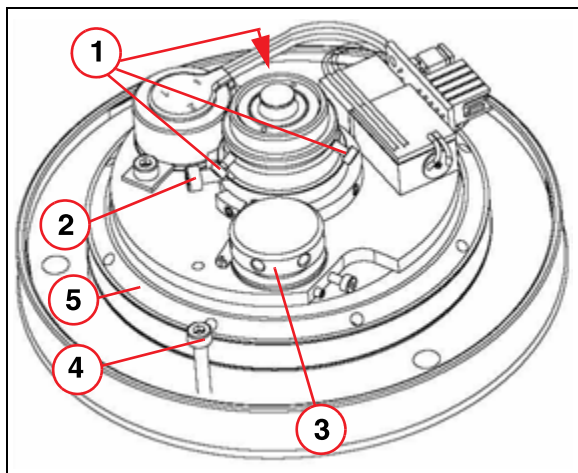

Fig. 27: Adjusting the camera
1. Loosen the clamping screw (4/Fig. 27 / p. 53).
2. Loosen the lock ring (5/Fig. 27 / p. 53).
4. Remove the 3 Allen screws from the camera flange (1/Fig. 27 / p. 53).
6. Rotate the camera until the plugs are at the same location prior to the adjustment and re-tighten the 3 M2 Allen screws (1/Fig. 27 / p. 53).
7. Tighten the lock ring (5/Fig. 27 / p. 53).
8. Retighten the clamping screw (4/Fig. 27 / p. 53).
1. Loosen the focus ring clamping screw (2/Fig. 27 / p. 53).
2. You can adjust the optimum sharpness by turning the focus ring (3/Fig. 27 / p. 53).
4. Retighten the focus clamping screw (2/Fig. 27 / p. 53).